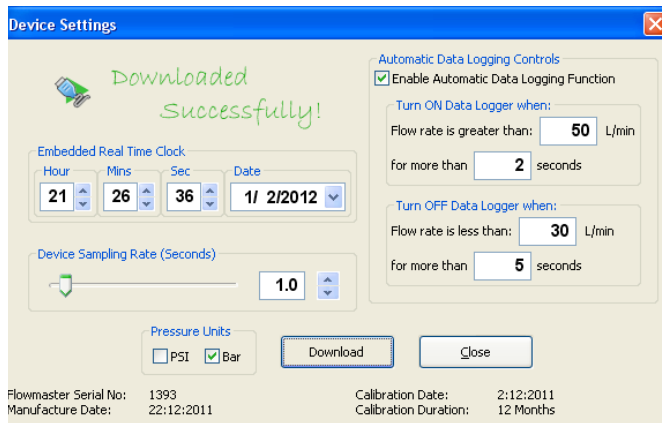
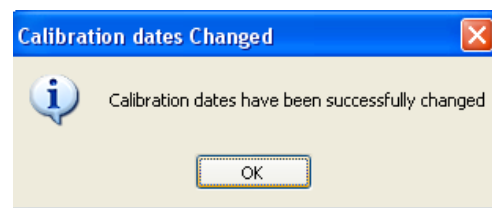
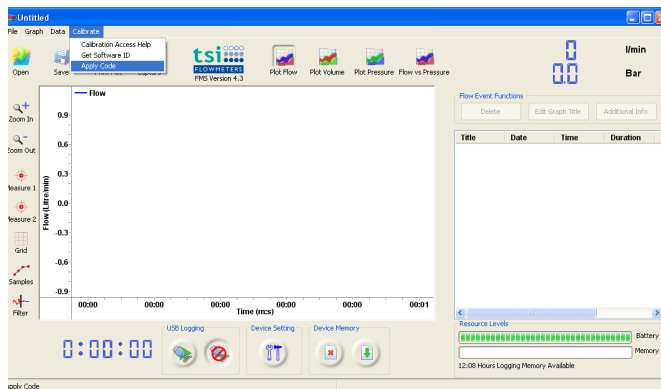
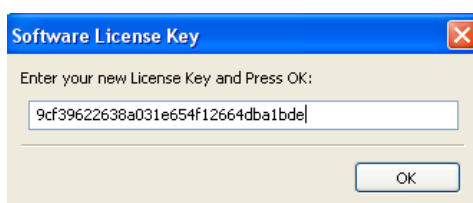

Fig. 5.6 Information panel when device settings is selected. Note that calibration date and duration will appear on bottom right
Fig. 5.15 And then press 'OK' to finish. The calibration date is now updated on your Flowmaster
Fig. 5.12 Applying the new license key
Fig. 5.13 Enter the code key into the box and press OK
Reminders that the meter calibration is due or is out are provided on the LED readout for your convenience. The format of the messages is given in Table 1 and in Fig 5.3. The calibration date and duration can be seen from the device settings dialog box on the FMS software. Please refer to Fig. 5.6. For the example shown, the calibration is due on December 2, 2012.
- To program your Flowmaster with the new code, select that 'Apply Code' option from the calibrate menu. Please refer to Fig. 5.12 to Fig. 5.15. Insert the new code in the dialog box that will appear and click OK.
To apply your new code, follow the procedure outlined from Fig. 5.12 through to Fig. 5.15. Copy the code that from the document received and paste into the dialog box as shown in Fig. 5.13. Follow on screen instructions to complete the procedure. The reminder messages will stop appearing on the LED readout of your Flowmaster. The status message on the device settings dialog box will be update as per Fig. 5.6.